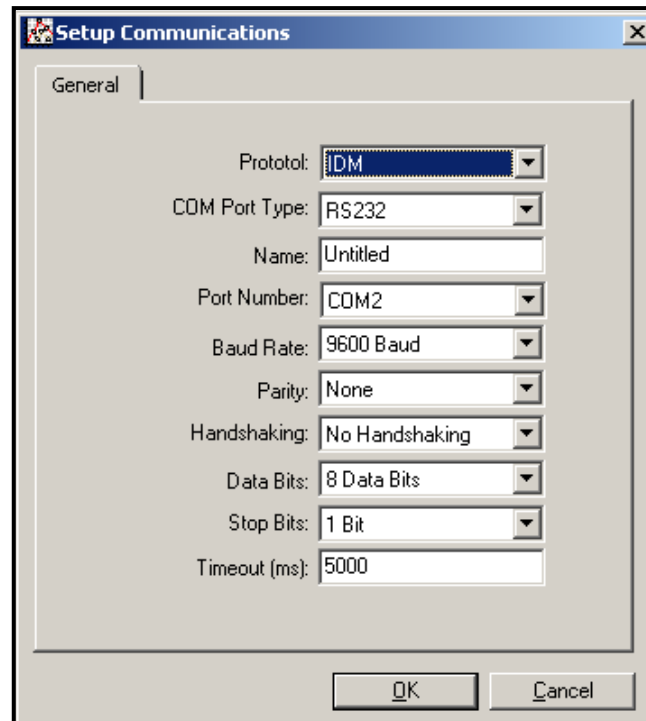

Figure 33: Setup Communications Screen
5. Click on the *Communications Port* option to select it. The *Setup Communications* screen appears similar to *Figure 33* below.